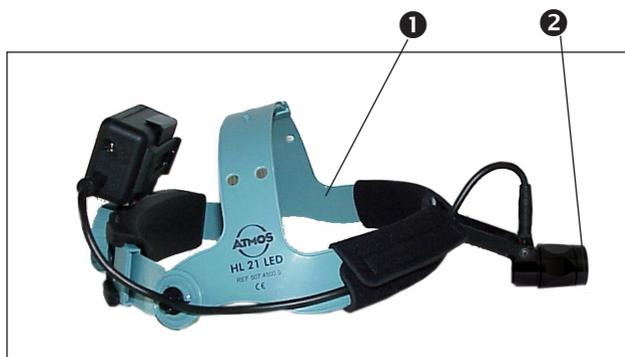

Fig. 9. Focusing
- The size of the light spot can be adjusted by turning the focusing ring (②, Fig. 9).